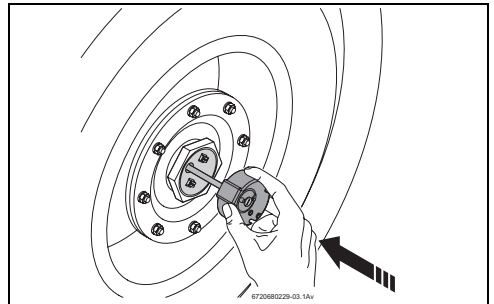

Fig. 6
- ▶ Insert the thermostat (→ Fig. 6).